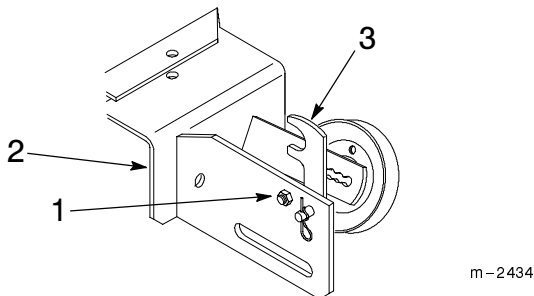

Figure 2
4. Tighten loosely the bolt securing the catch to the support; so the catch still can rotate. (Fig. 2).